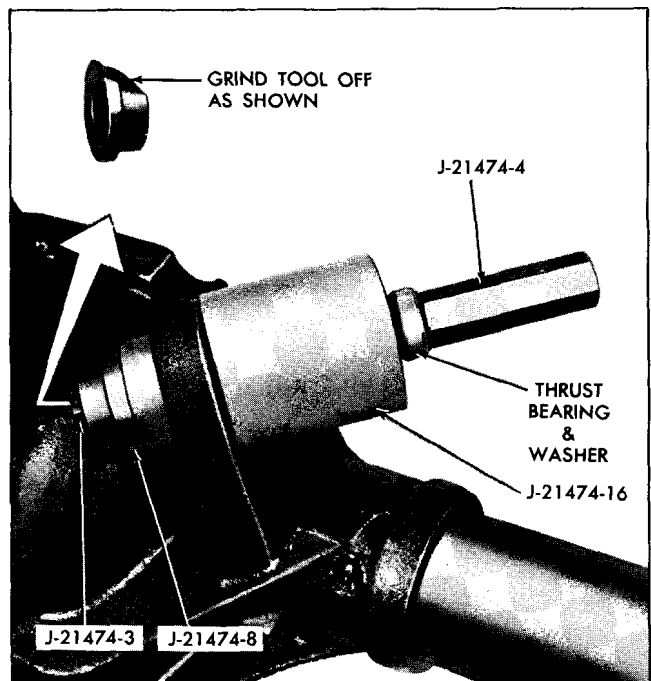

Fig. 4-30 Removing Upper Control Arm Rear Bushing (Coil Spring Suspension)
4. Arrange tools as shown in Fig. 4-30 and press bushing from axle housing.